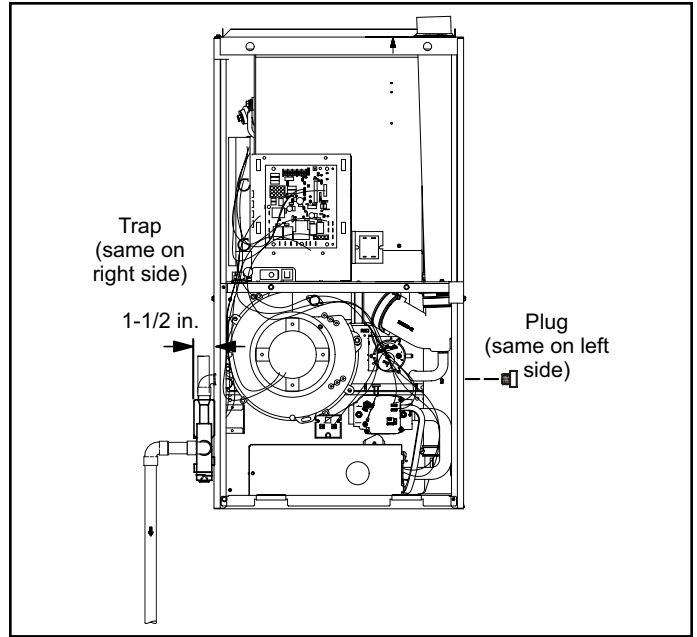

Figure 41. Condensate Trap and Plug Locations
This unit is designed for either right or left side exit of condensate piping in downflow applications. Refer to Figure 41 for condensate trap locations.
2. Use a large flat head screw driver or a 1/2" drive socket extension and remove plug (Figure 41) from the cold end header box at the appropriate location on the side of the unit. Install provided 3/4 NPT street elbow fitting into cold end header box. Use Teflon tape or appropriate pipe dope.